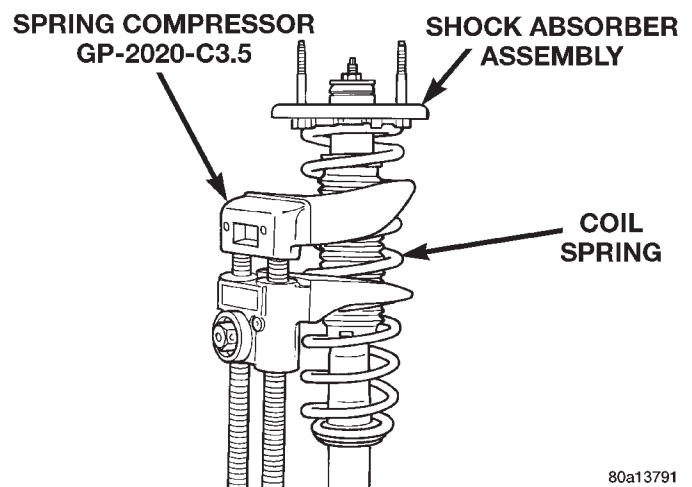

Fig. 53 Compressing Shock Absorber Spring
(4) Compress shock assembly coil spring, using Professional Services Equipment Spring Compressor, GP-2020-C3.5 or an equivalent (Fig. 53).